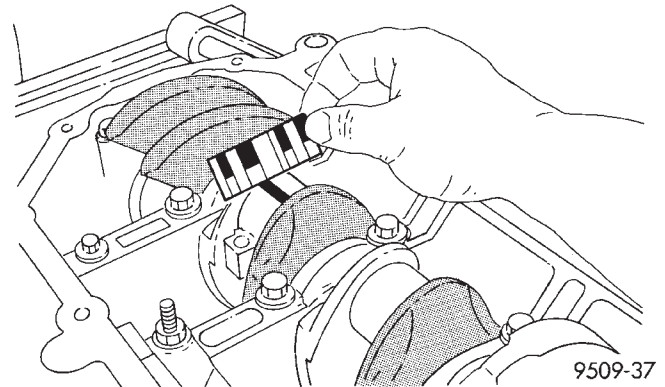

Fig. 7 Connecting Rod Bearing Clearance
(1) Follow the procedure specified in the Standard Service Procedures Section for Measuring Main Bearing Clearance and Connecting Rod Bearing Clearance (Fig. 7). Refer to specifications.